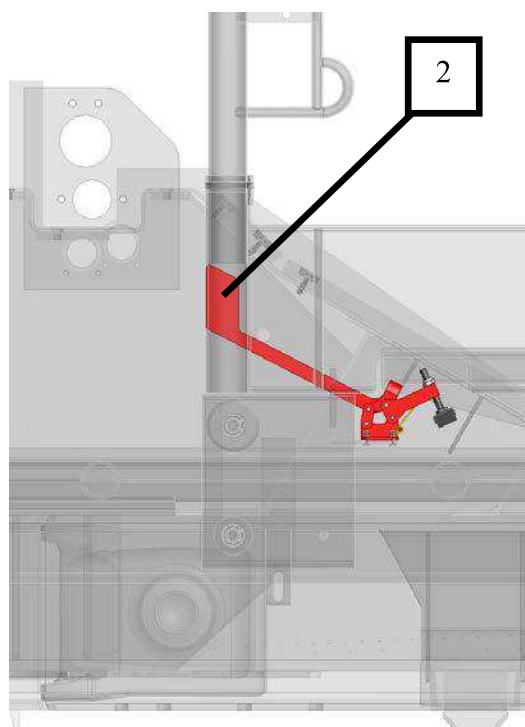

Figure 6 Open position of the tarpaulin brake
⚠ For opening tarpaulin brake, positioning of lever (2) must be according to the figure 6.